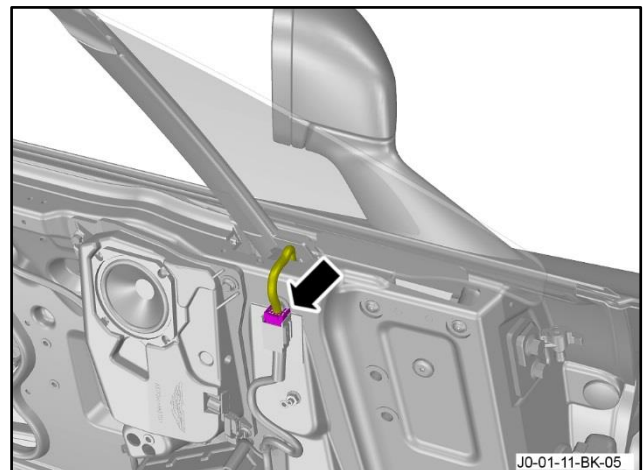

Figure 32
17. Connect the electrical connector for the exterior mirror (refer to Figure 32).